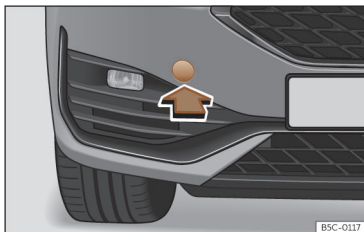

Fig. 48 On the right side of the front bumper: remove the cover.
The housing of the screw towing eye is on the right side of the front bumper behind a lid»» **Fig. 48**.
- Remove the cover by pressing down on its base and leave it hanging from the vehicle »» **Fig. 48**.